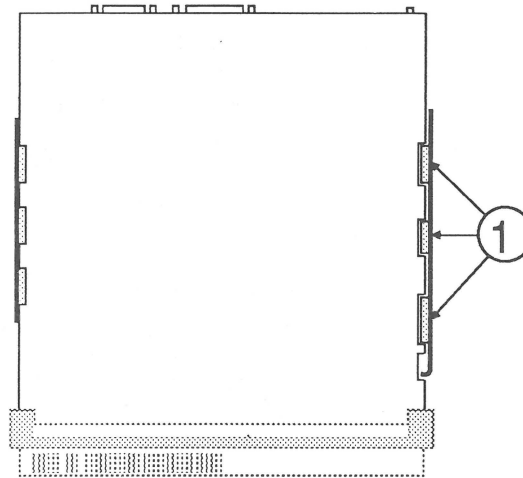

FIGURE 20
4. Exactly align the tabs on the right edge of the board with the notches on the right metal bracket (Figure 20, #1), and settle the right edge of the board into the right metal bracket. Slide the board down until you hear it click into place.